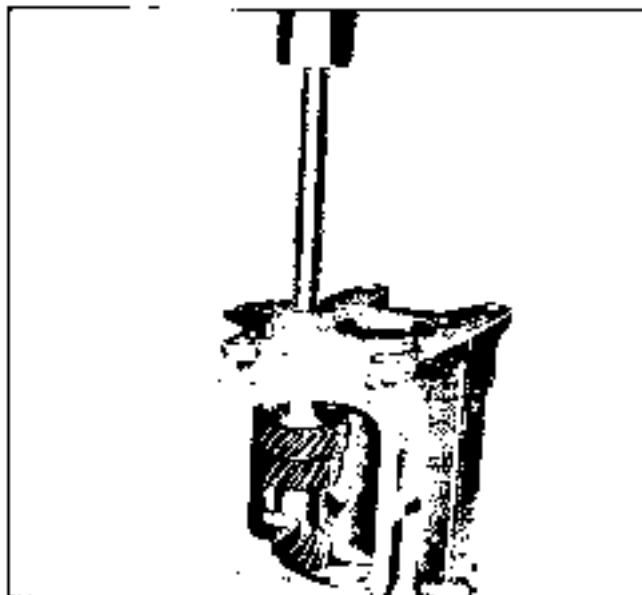

Fig. 7D-13 Removing Countershaft with J 22379
18. Spread rear bearing retainer snap ring and press mainshaft out of the retainer (Fig. 7D-15).